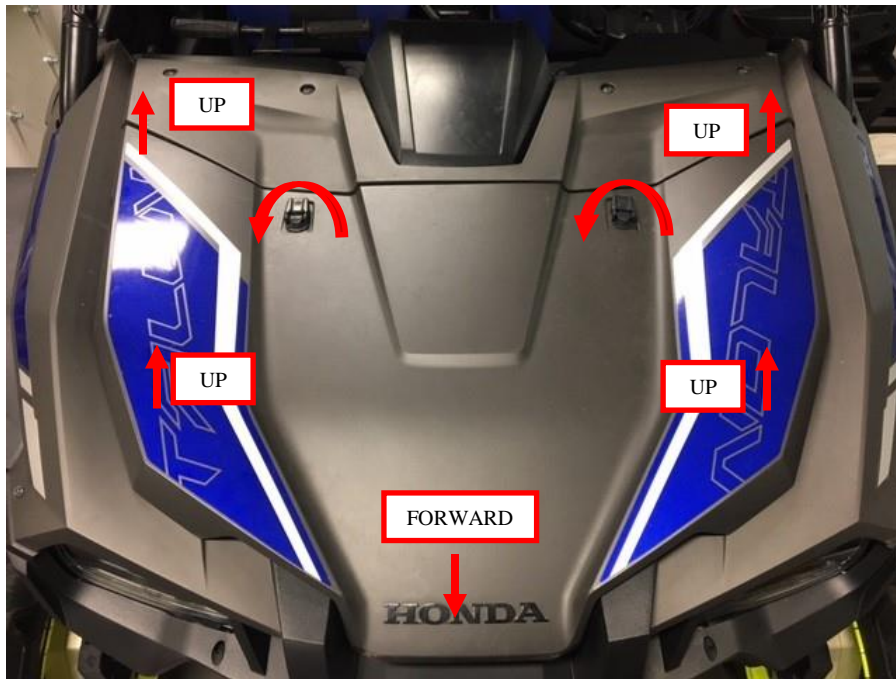

Figure 6: Remove the radiator hood access panel.
5. Remove the hood from the front of the vehicle by lifting and rotating the lock knobs, lifting up to release the 4 bosses, and sliding towards the front of the vehicle. See Figure 6.